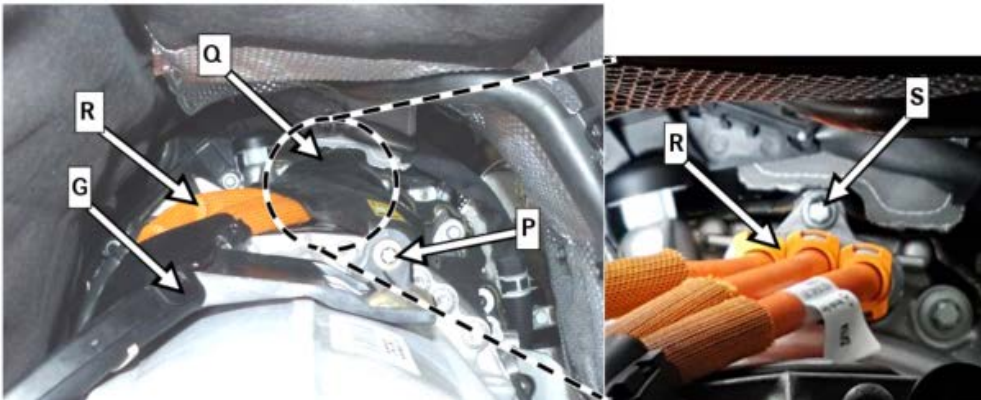

Figure 5 (example illustration on model 213 with OM654)
12. Remove cable duct (**G, Figure 5**) at side from transmission.
13. Remove screw (**P, Figure 5**) and remove upper cover (**Q, Figure 5**) above the high-voltage plug connector (**T, Figure 5**).
14. Remove screw (**S, Figure 5**) and remove high-voltage wiring harness (**R, Figure 5**) with cable duct (**G, Figure 5**).